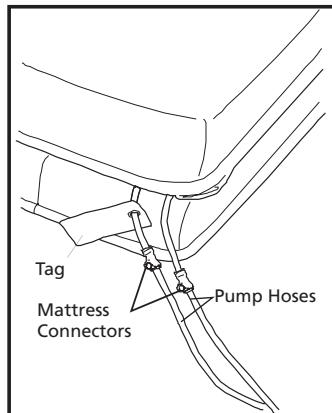

Figure 6
2. Attach pump hoses to mattress, as shown at right (Figure 6):